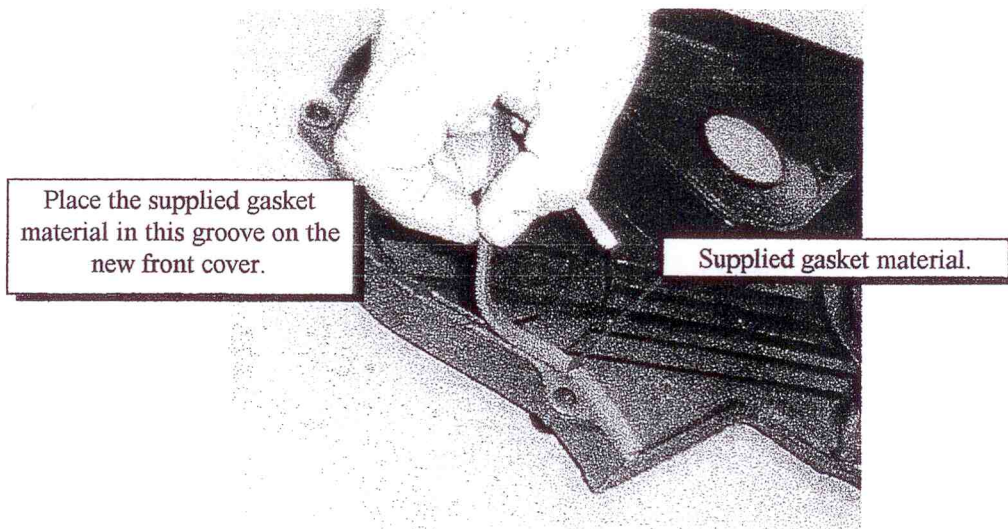

FIGURE 15
If your vehicle is equipped with an **automatic transmission**, unclip the transmission cable from the stock retaining bracket. Remove the upper bolt from the stock retaining bracket, and tilt it forward about 15 degrees. Install the supplied relocation bracket using the supplied bolts, as shown in **Figure 15**. Attach the cable bracket to the relocation bracket as shown. Snap the cable back into the bracket.
- ~~26.~~ TRD supplies a strip of gasket material to be put in place of the factory gasket. Insert the gasket material in the groove shown in Figure 15. This provides a dirt shield for the cam timing belt and pulleys.